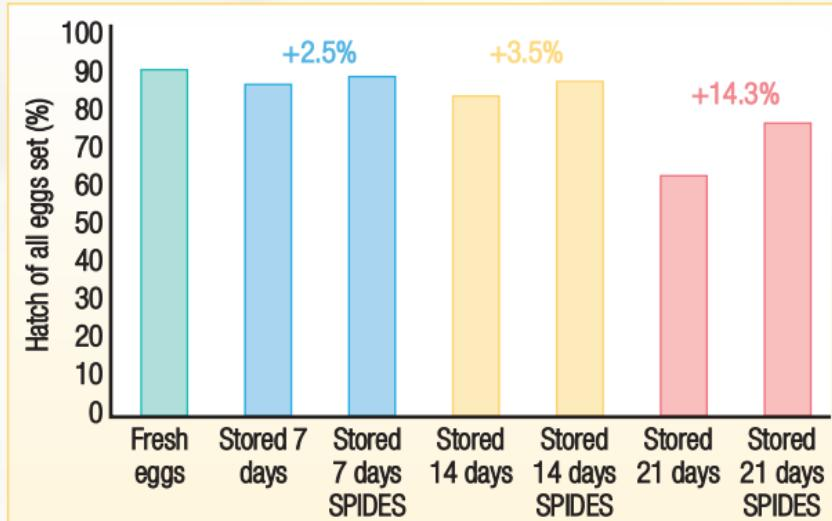

Fig. 1. The effect of SPIDES on hatchability of eggs stored for seven, 14 or 21 days.
- In trials with broiler and parent hatching eggs, improvements in hatchability have been seen with egg storage periods as short as seven days (see Figs. 1 and 2).